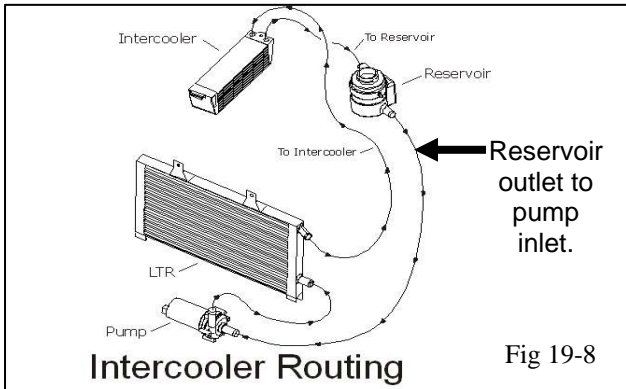

Fig 19-8
- (k) Before proceeding with the remainder of the hose plumbing, study the hose routing (Fig 19-8).